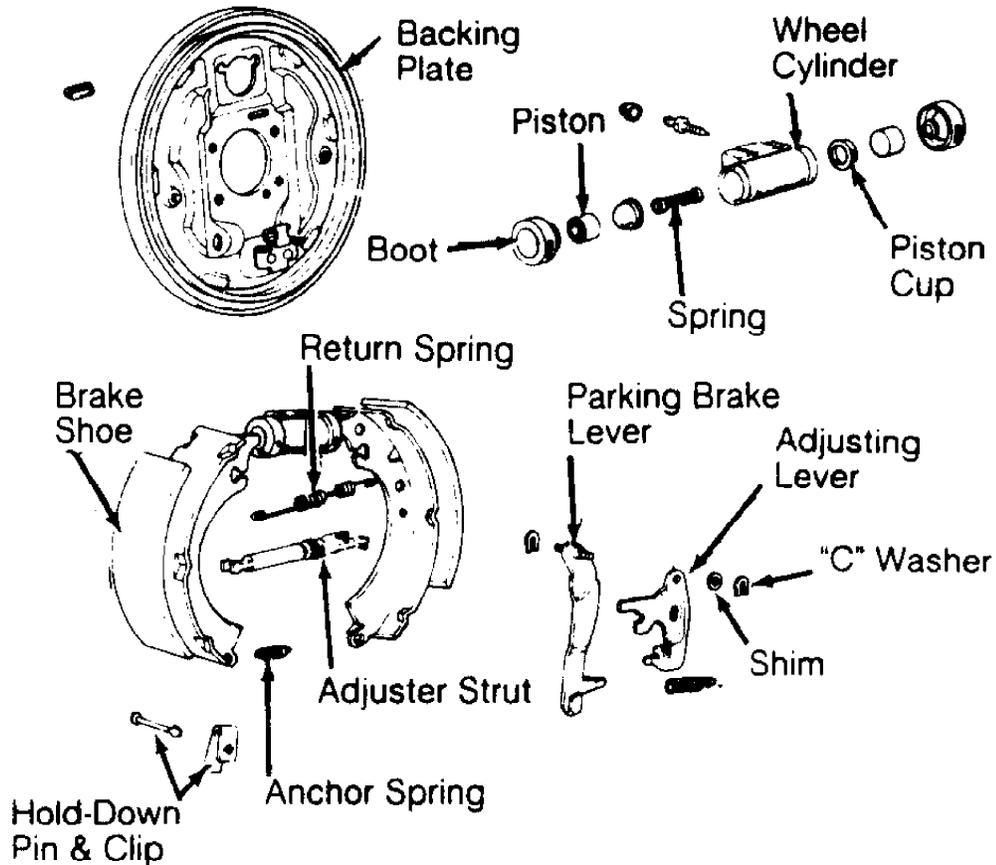

Fig. 7: Exploded View of Typical Duo-Servo Rear Drum Brake
- 2) Disconnect parking brake cable from adjuster lever. Remove "C" washer, adjusting lever and parking brake lever from rear shoe. See Fig. 7.